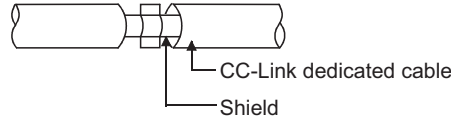

Figure 9.17 CC-Link dedicated cable grounding
- Be sure to ground the cable shield that is connected to the CC-Link module close to the exit of control panel or to any of the CC-Link stations within 30 cm (11.81 inches) from the module or stations. The CC-Link dedicated cable is a shielded cable. Remove a part of the jacket as shown in Figure 9.17 and ground the exposed shield section to the ground as much as possible.